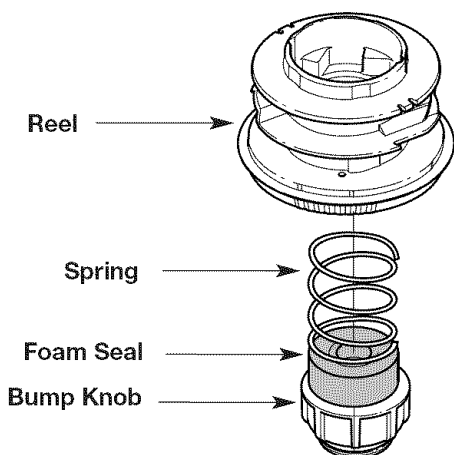

Fig. 21
- Remove the Bump Knob, foam seal, spring, reel, and trimming line from the reel housing (Fig. 21).
- Install the reel, spring, foam seal, and Bump Knob into the reel housing (Fig. 21).